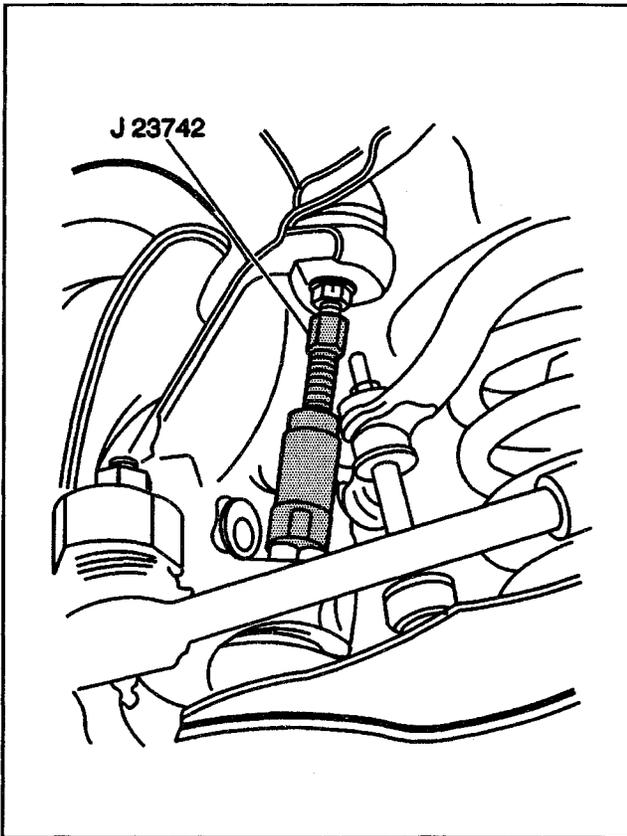

Figure 20—Disconnecting the Upper Ball Joint
A. Use J 23742 as shown in Figure 20.